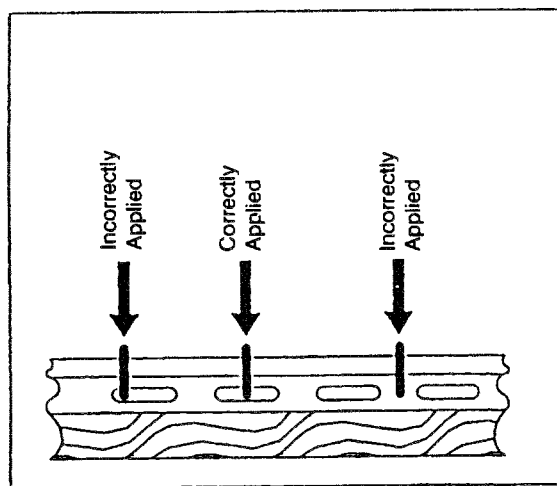

FIG. 7
- D. Secure panels by fastening the staple or nail in the center of the nailing slot. (See Figure 7) Panels should be fastened a minimum of 16" apart. Panels should be able to move freely from side to side after installation. Overlap each panel 1" (One half of the factory pre-notched end). (See Figure 8)